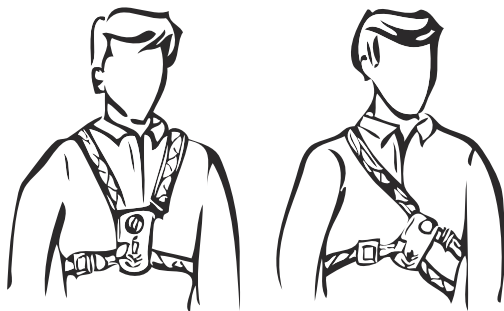

Figure 1-11. Wearing the Transceiver.
- Adjust the strap to a comfortable position, run the second strap around the torso, and secure the plastic buckle. See figure 1-11.